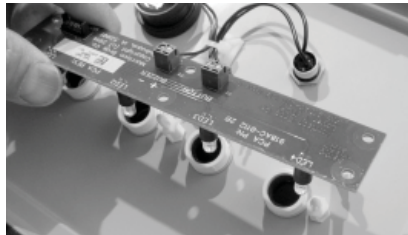

Figure 10 - Removing the Indicator Board
i. Now lift the board completely off of the supports. See Figure 10.